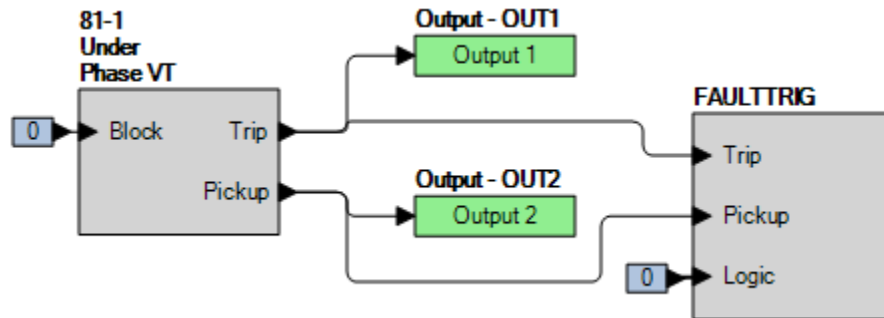

Figure 61-2. BESTlogicPlus Settings (Underfrequency)
Step 2: Use BESTCOMSPlus to configure the BESTlogicPlus programmable logic shown in Figure 61-2.
Step 4: Prepare to monitor the 81-1 function operation. Operation can be verified by monitoring OUT2 (see Figure 61-2).